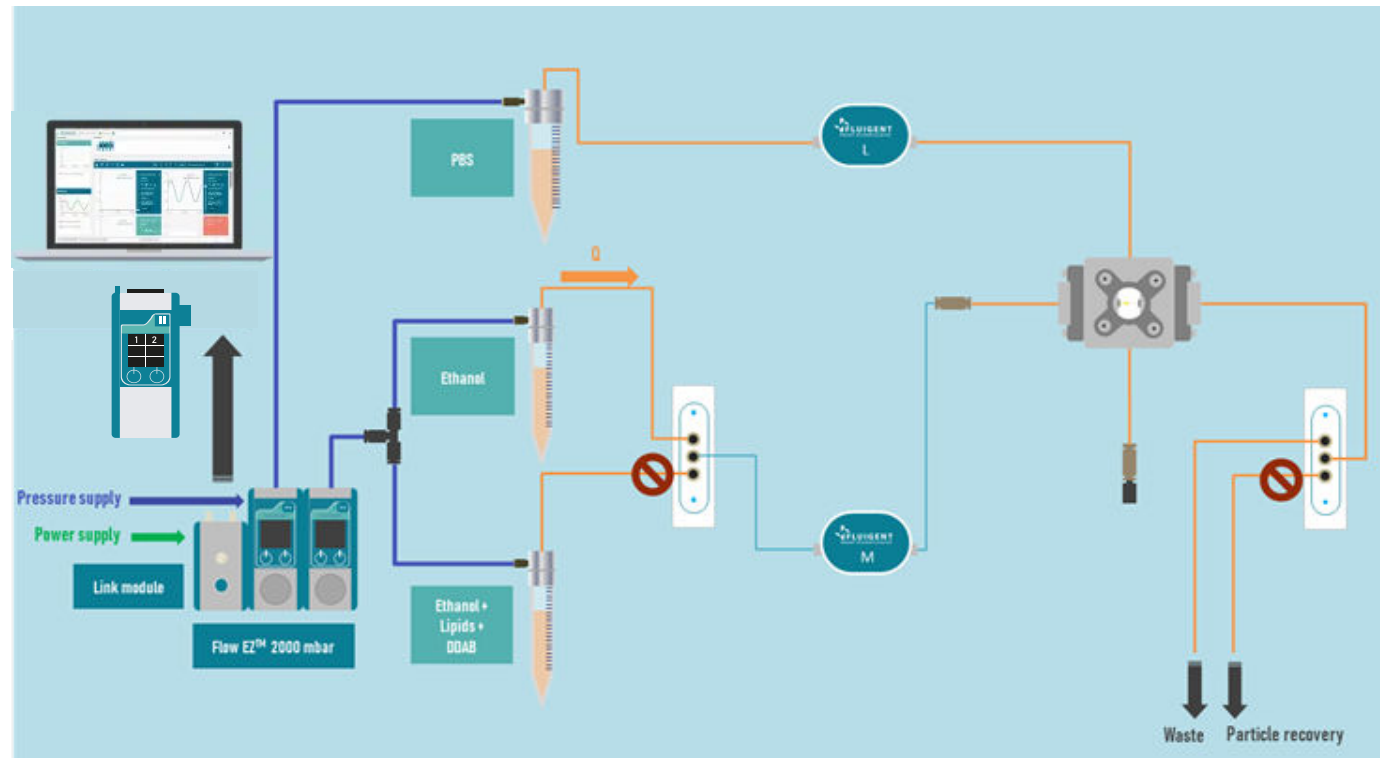

Figure 7: 2-SWITCH™ redirecting Ethanol in waste
- 1 Switch both valves to waste position and ethanol position (Fig 7).